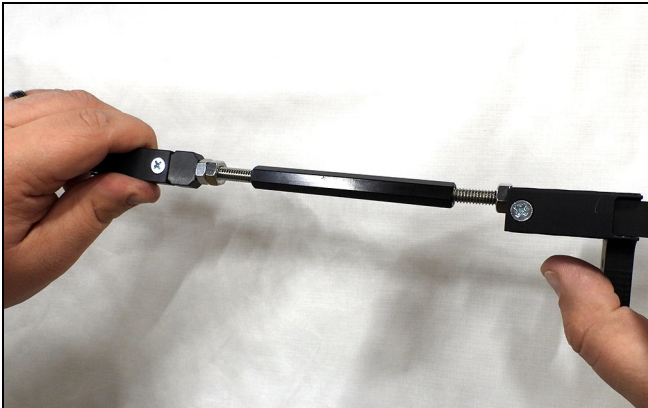

Figure 39
1. Loosen turnbuckle until there are 5 threads of engagement on each side. See Figure 39